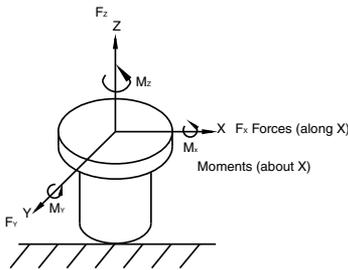
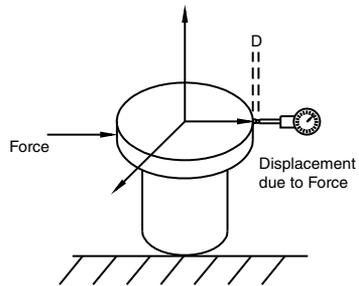
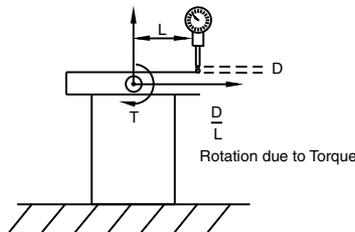

Figure 6-1 Forces Encountered due to Counterbalancing
Figure 6-3 Displacement due to Force
Figure 6-2 Rotation due to Torque
The primary forces encountered due to counterbalancing are translation and torsion. These forces are illustrated in Figure 6-1, Figure 6-2, and Figure 6-3. The forces can be further described along or about the three major axes of a coordinate system at the mounting base. The translation forces (F) along the axes and the moments (M) about the axes result in deformations of the base.